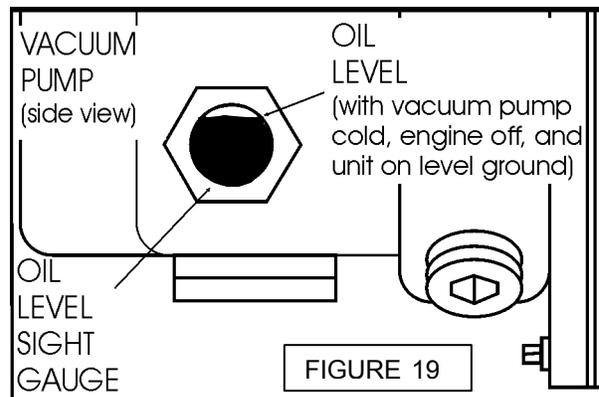

FIGURE 19
1. Check the oil level **weekly** to assure the proper level. **PROPER LEVEL** cannot be overemphasized. Too little oil will ruin bearings and gears. Too much oil will cause overheating. Use Figure 19 as a guide when adding oil.